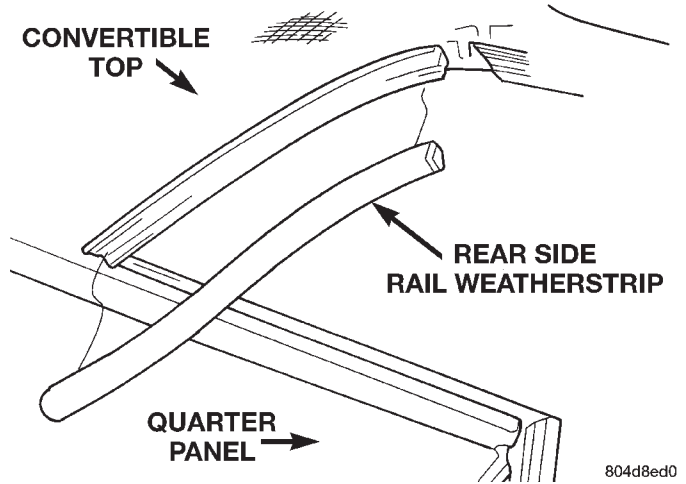

Fig. 45 Rear Side Rail Weatherstrip
- (1) Partially raise convertible top.
- (2) Using a trim stick, special tool C-4755, separate one end of weatherstrip from retainer channel.
- (3) Separate weatherstrip from vehicle (Fig. 45).